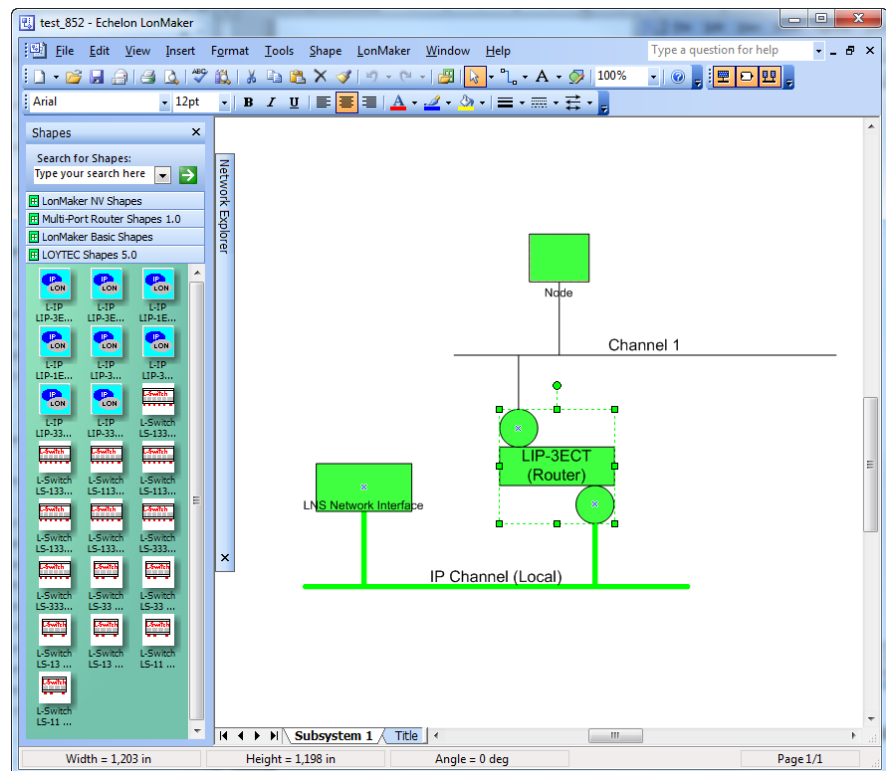

Figure 102: Drag the L-IP (Router) shape onto the drawing area and commission the device.
8. Now drag the L-IP (Router) shape from the “LoytecShapes” stencil onto the drawing area. Choose the existing channel “IP Channel” for the first router port and the existing channel “Channel 1” for the second port. Finally you must commission the new L-IP router. LonMaker can now use the L-IP as a local or remote network interface that connects directly to the Ethernet network as shown in Figure 102.